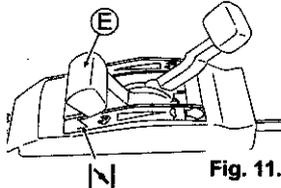

Fig. 11.
- 3 Set Throttle lever (E) to Choking "N". (See Fig. 11.) (The engine can start by setting the lever at "S" when it is warm.)